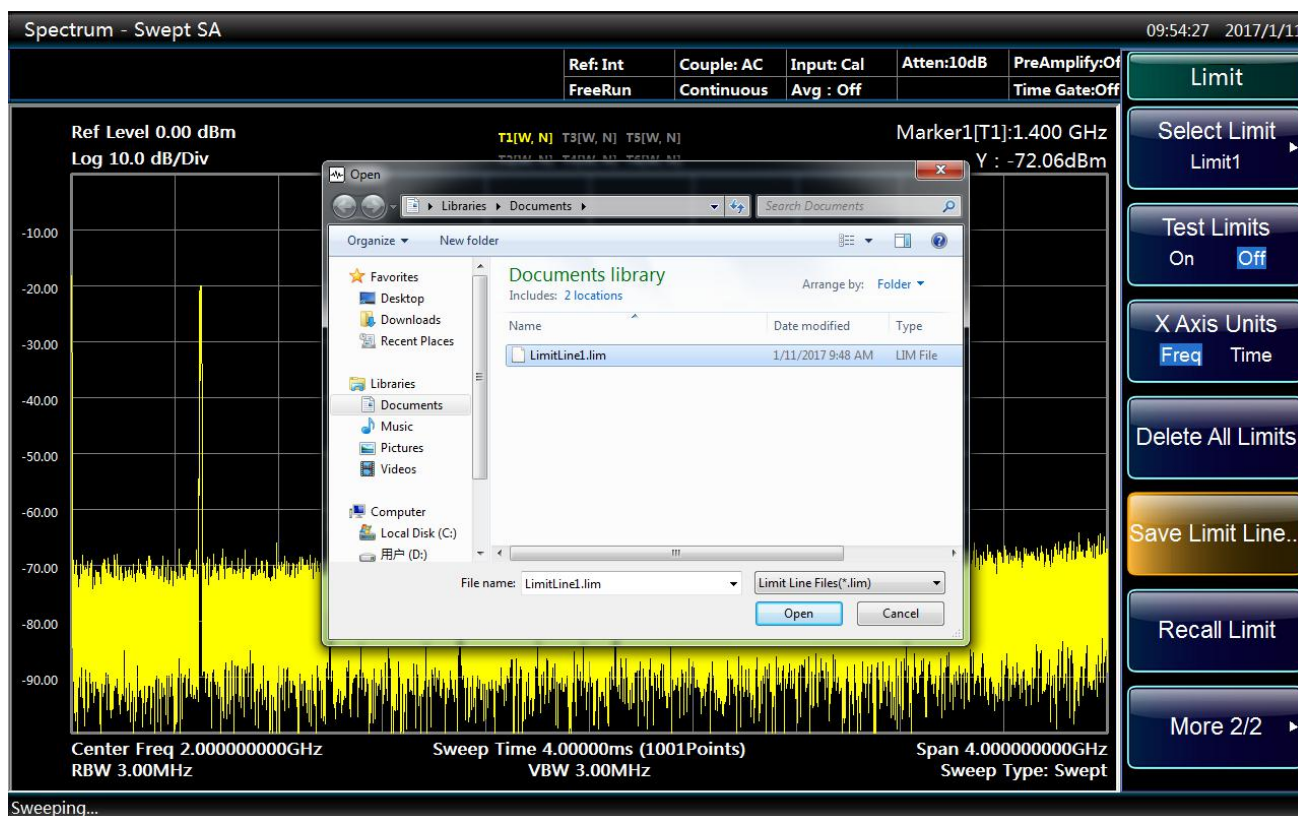

Fig. 4.86 Load Limit Line Window
- Press [Load Limit Line...] Soft menu, pop up file open dialog box, select limit line file which its name suffixed with “.lim”, click to open, and reflect the limit line data in the current limit line, as shown in Fig. 4.86.